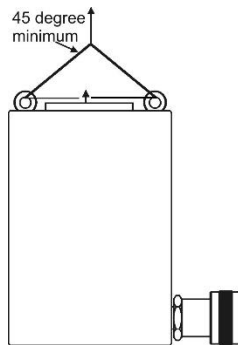

Figure 1 – Hoisting Cylinder
**⚠ WARNING:** When hoisting the cylinder, use **all** of the eye bolts. Failure to do so could cause the cylinder to drop unexpectedly. Lifting straps must be at a 45 degree or greater angle from horizontal (see Figure 1).